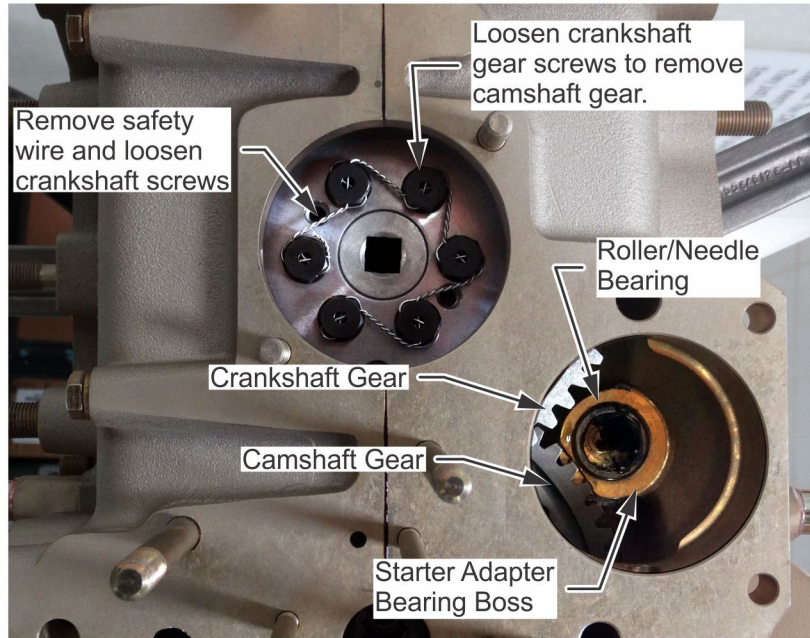

Figure 6. Camshaft Gear Access Locations, Crankcase, typical
- e. Cut and discard safety wire from the crankshaft gear screws (see Figure 6).